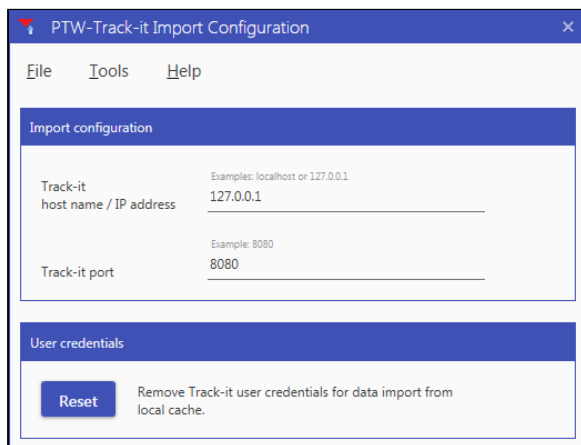

Figura 2: Tela principal do *Track-it Import Configuration*
- Será exibida a tela principal *Track-it Import Configuration* (consulte Figura 2).